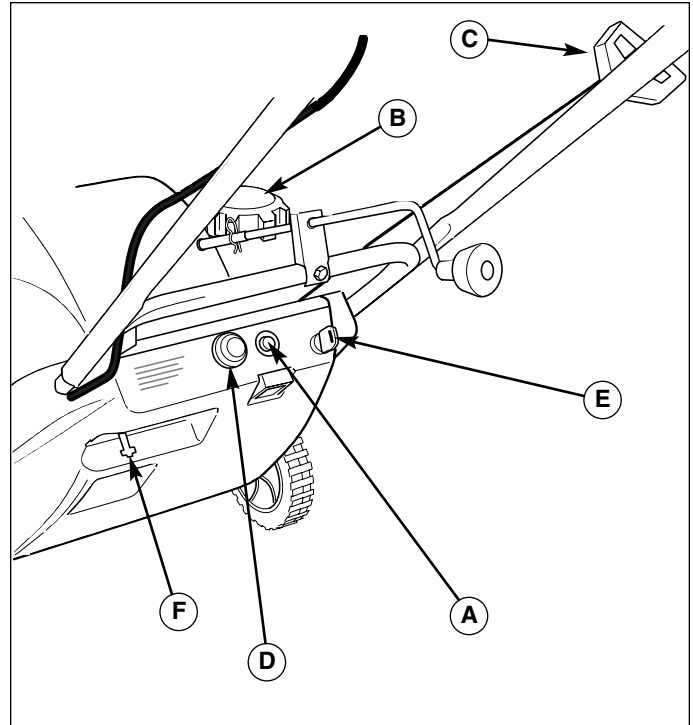

Figure 6. Engine Controls
A. Electric Start Button - The electric start Button (A, Figure 6) activates an electric starter mounted to the engine, eliminating the need to pull the starter handle. The electric start button operates on 120 Volts AC, which is provided by connection to the extension cord provided with units equipped with this feature. **Connect this extension cord ONLY to a properly grounded 3 prong electrical outlet.**
- C. Starter Handle** - The starter handle (C, Figure 6) connects to a starter cord to manually start the engine. Pulling starter handle rapidly spins the engine crankshaft, cycles the engine, and generates the spark necessary for starting the engine.
- D. Primer Button** - When pressed, the primer button (D, Figure 6) provides initial fuel to help start a cold engine. Normally, pressing the primer button twice will provide enough fuel to start a cold engine.
- F. Choke Control** - The is control (F, Figure 6) adjusts the fuel/air mixture, and is used to help start a cold engine by providing a richer mixture. Once the engine is warm and running smoothly, the choke control should be set to the off position to provide a normal air/fuel mix.